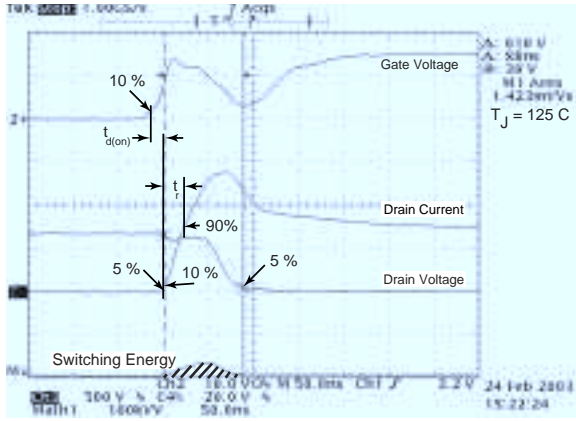

Figure 18, Turn-on Switching Waveforms and Definitions
① Repetitive Rating: Pulse width limited by maximum junction temperature
② Pulse Test: Pulse width < 380  $\mu s$ , Duty Cycle < 2%
③ See MIL-STD-750 Method 3471
④ Starting  $T_j = +25^\circ C$ ,  $L = 7.50mH$ ,  $R_G = 25\Omega$ , Peak  $I_L = 28A$
⑤  $dv/dt$  numbers reflect the limitations of the test circuit rather than the device itself.  $I_S \leq -I_D 28A$   $di/dt \leq 700A/\mu s$   $V_R \leq V_{DSS}$   $T_J \leq 150^\circ C$
⑥  $E_{on}$  includes diode reverse recovery. See figures 18, 20.